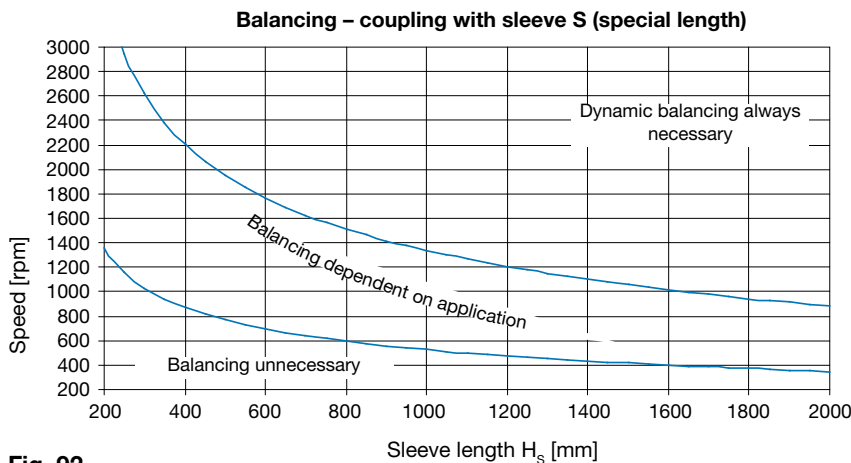

Fig. 92
- Length of special sleeve (Fig. 92)